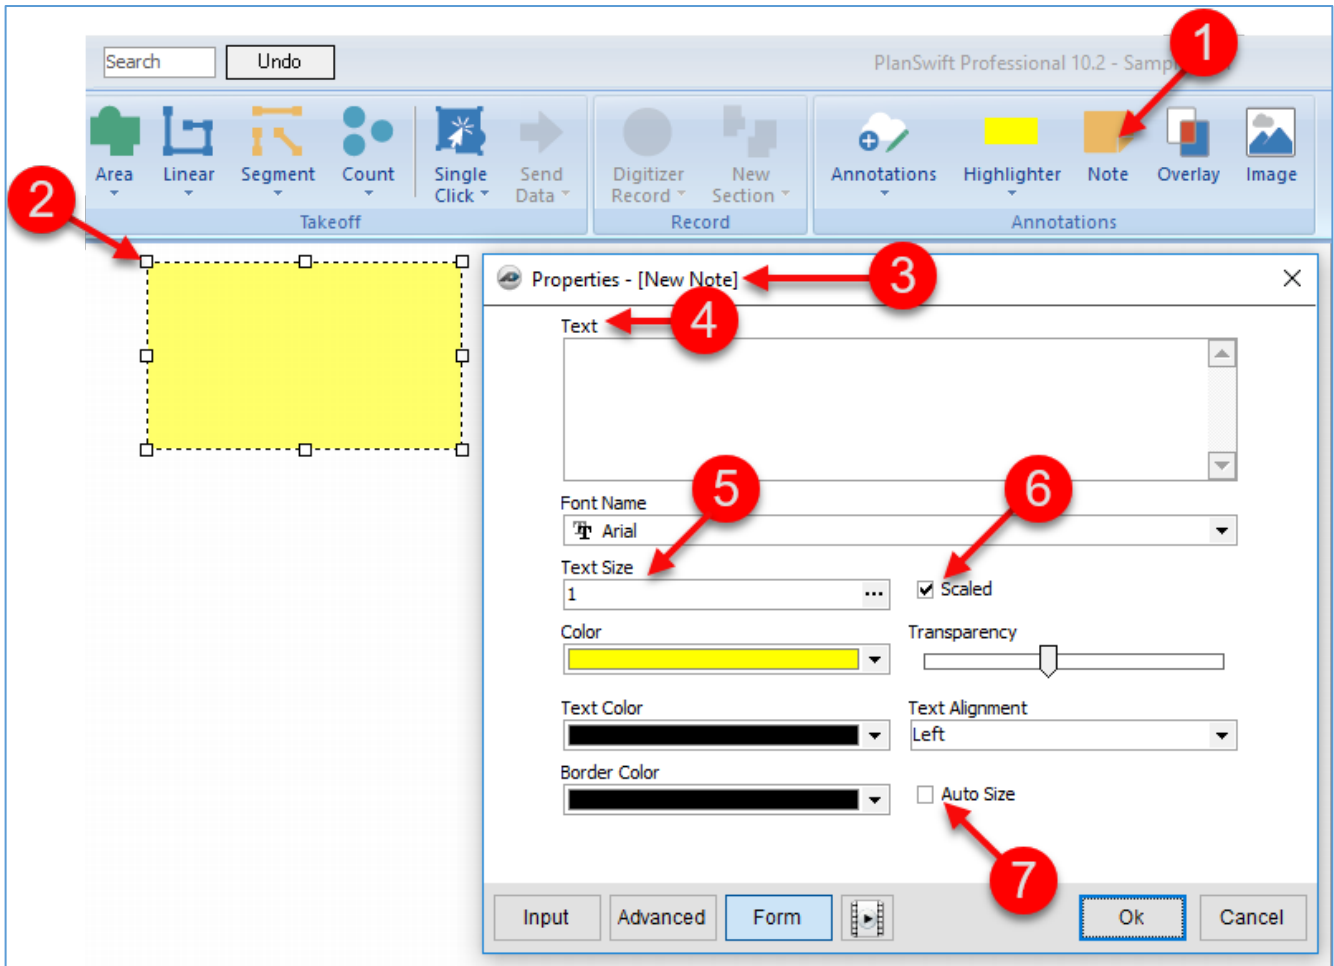

Figure 26-A
1. Click on the **Note** button in the **Annotations** group on the **Home** tab ribbon-bar (Fig. 26-A).